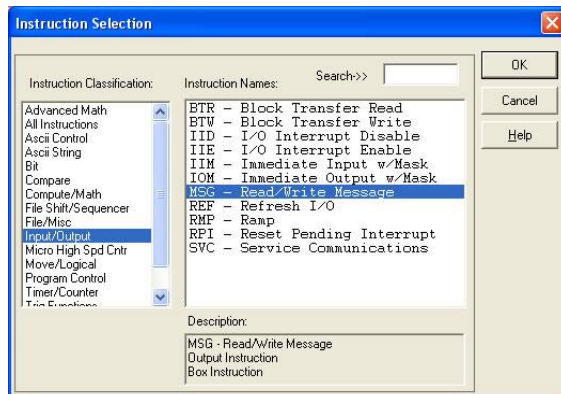

Figure 53: MSG Instruction Selection
- d) Select the “MSG” instruction from the “Input/Output” classification, then click OK. Refer to Figure 53.